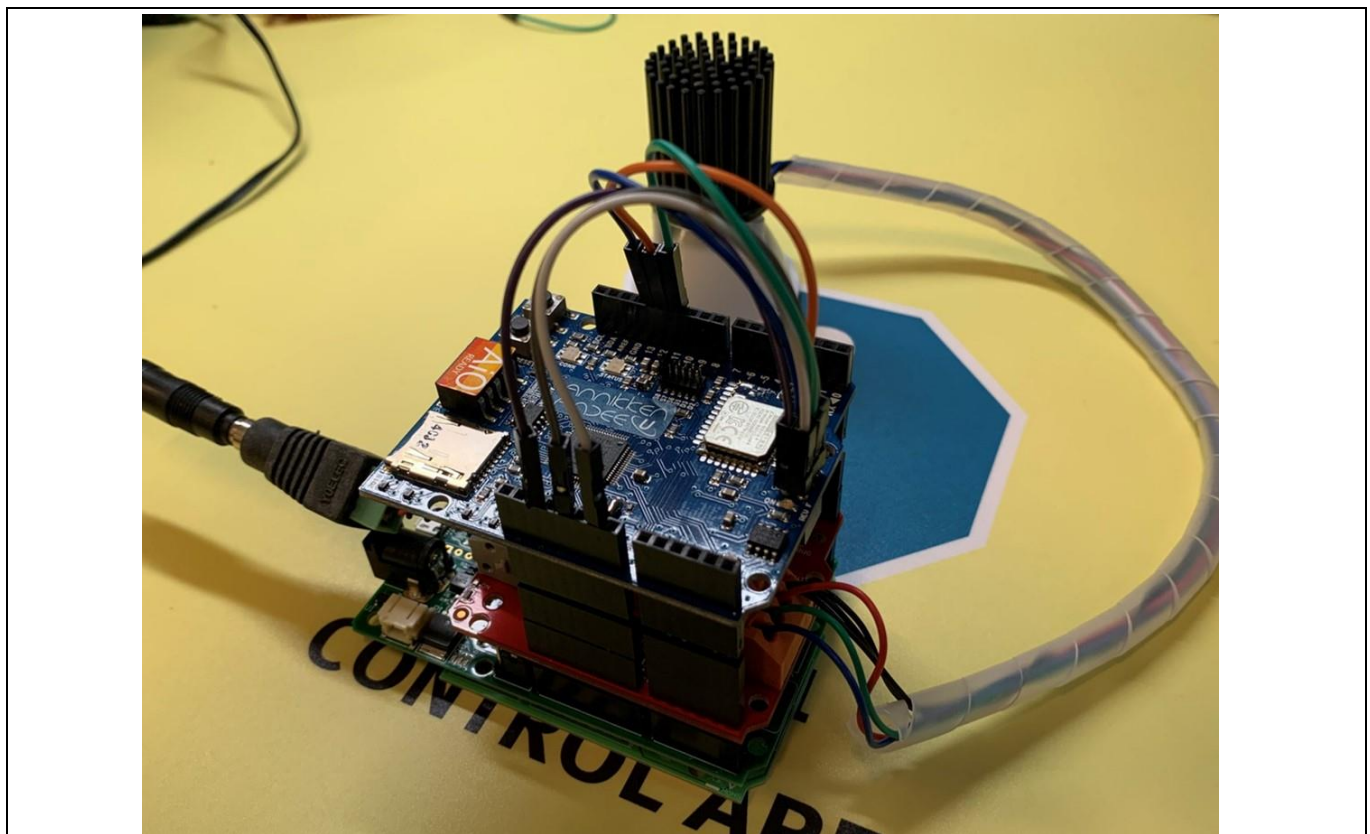

Figure 29 Stacking the Annikken Andee U shield onto the set-up
6. Stack the Annikken Andee U shield onto the set-up (Figure 29). Notice that there are several jumper wires on the Annikken Andee U board. This is due to the hardware modifications required on the radar baseboard regarding the ISCP header as mentioned in Section 2.3. Figure 30 illustrates the required connections.